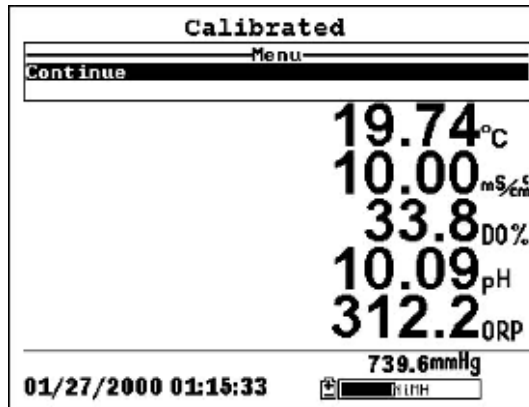

Figure 6.6 Calibrated
- 9.** Observe the reading under DO %. When the reading shows no significant change for approximately 30 seconds, press **Enter**. The screen will indicate that the calibration has been accepted and prompt you to press **Enter** again to Continue. See Figure 6.6 Calibrated.